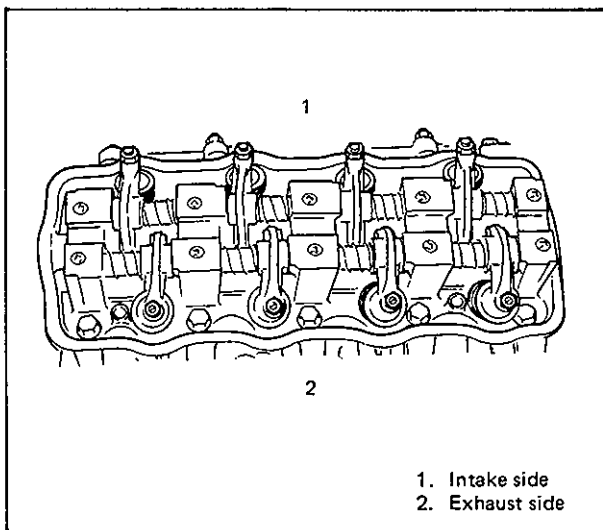

Fig. 6A-77 Rocker Arms, Springs and Rocker Arm Shafts Installation
4. Timing belt inside cover and camshaft pulley. Fit pulley pin on camshaft into slot on camshaft pulley. With locking camshaft as shown in Fig. 6A-78, tighten pulley bolt to specified torque.